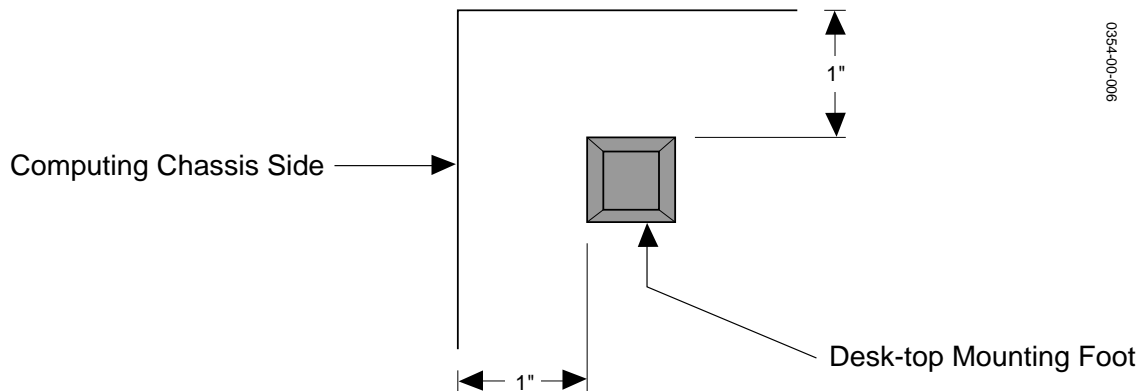

Figure 3-1. Table Top Mounting Foot Installation
If the Chassis is to be placed on a console or table top, you may want to protect that surface by installing the four rubber feet provided as illustrated in Figure 3-1. To install the rubber feet, refer to Figure 3-1 and perform the following procedure:
3. One at a time, remove the backing from each foot and firmly press into place approximately 1" in from each side at the corners on the bottom plate. (See Figure 3-1.)